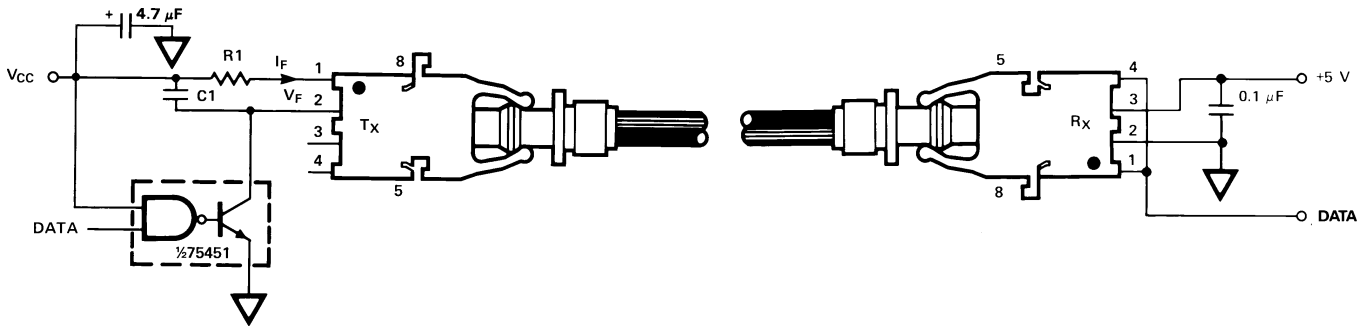

Figure 11. Required 1 Mb Interface Circuit.
The HFBR-25X2 receiver can not be overdriven when using the required interface circuit shown in Figure 11.
- The LED drive circuit of Figure 11 is required for 1 MBd operation of the HFBR-25X2/25X4.